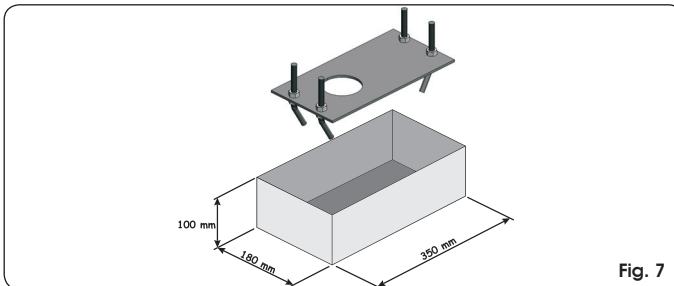

Fig. 7
3. Make a foundation plinth as in Fig. 7 and wall the foundation plate, providing one or more sheaths for routing the electrical cables. Using a spirit level, check if the plate is perfectly level. Wait for the cement to set.